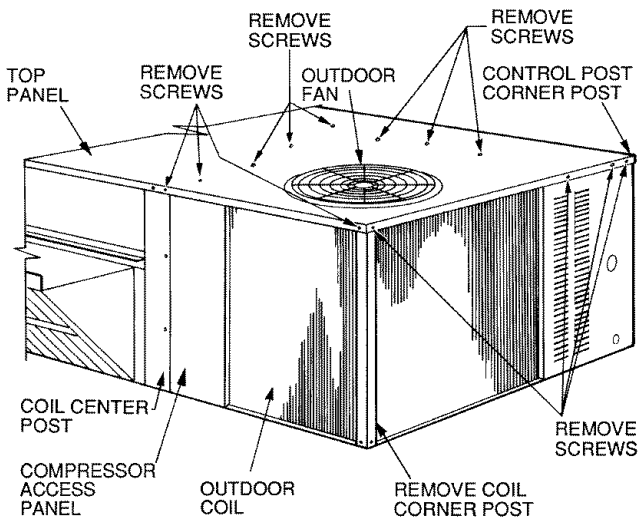
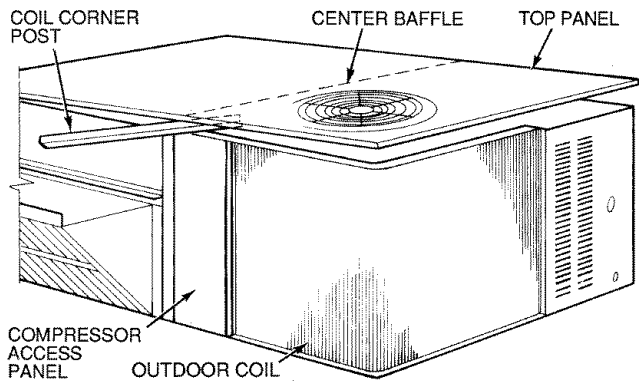

Fig. 44 — Cleaning Outdoor Coil
Fig. 45 — Propping Up Top Panel
3. Remove the outdoor coil corner post. See Fig. 44. To hold the top panel open, place the coil corner post between the top panel and the center post. See Fig. 45.